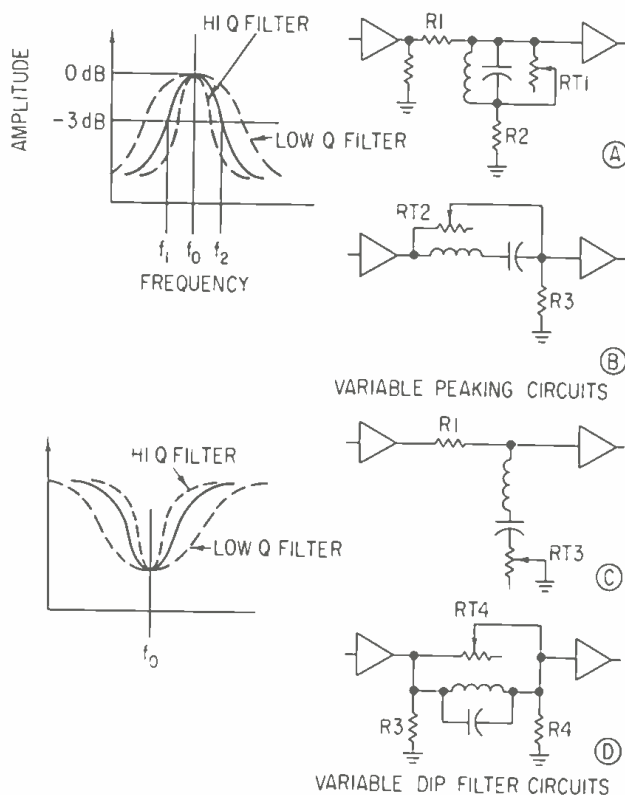

Figure 1. Variable dip filter circuits.
If the inductor in the tank circuit happens to be a plain coil that is wound on the air-core bobbin, you can expect a wide peak. If you are looking for a narrower peak or dip you will have to use a toroidal or powdered iron-core-coil form inductor. The circuit required to form a peak or notch in response is shown in FIGURE 1
In the dip filters of FIGURE 1 circuit (C) is similar to circuit (A) except that the tank circuit affects loss of the L pad only at the resonant frequency. Series rheostat Rt 3 introduces finite resistance in series with the tank circuit. At the resonance, it softens the action of the tank circuit.